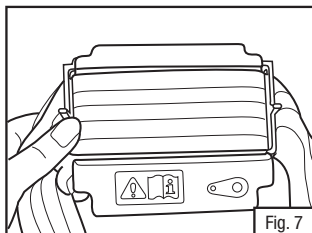

Fig. 7
2. Thread the belt through the rear cover and fit the cover onto the back of the filter carrier assembly (Fig. 7).